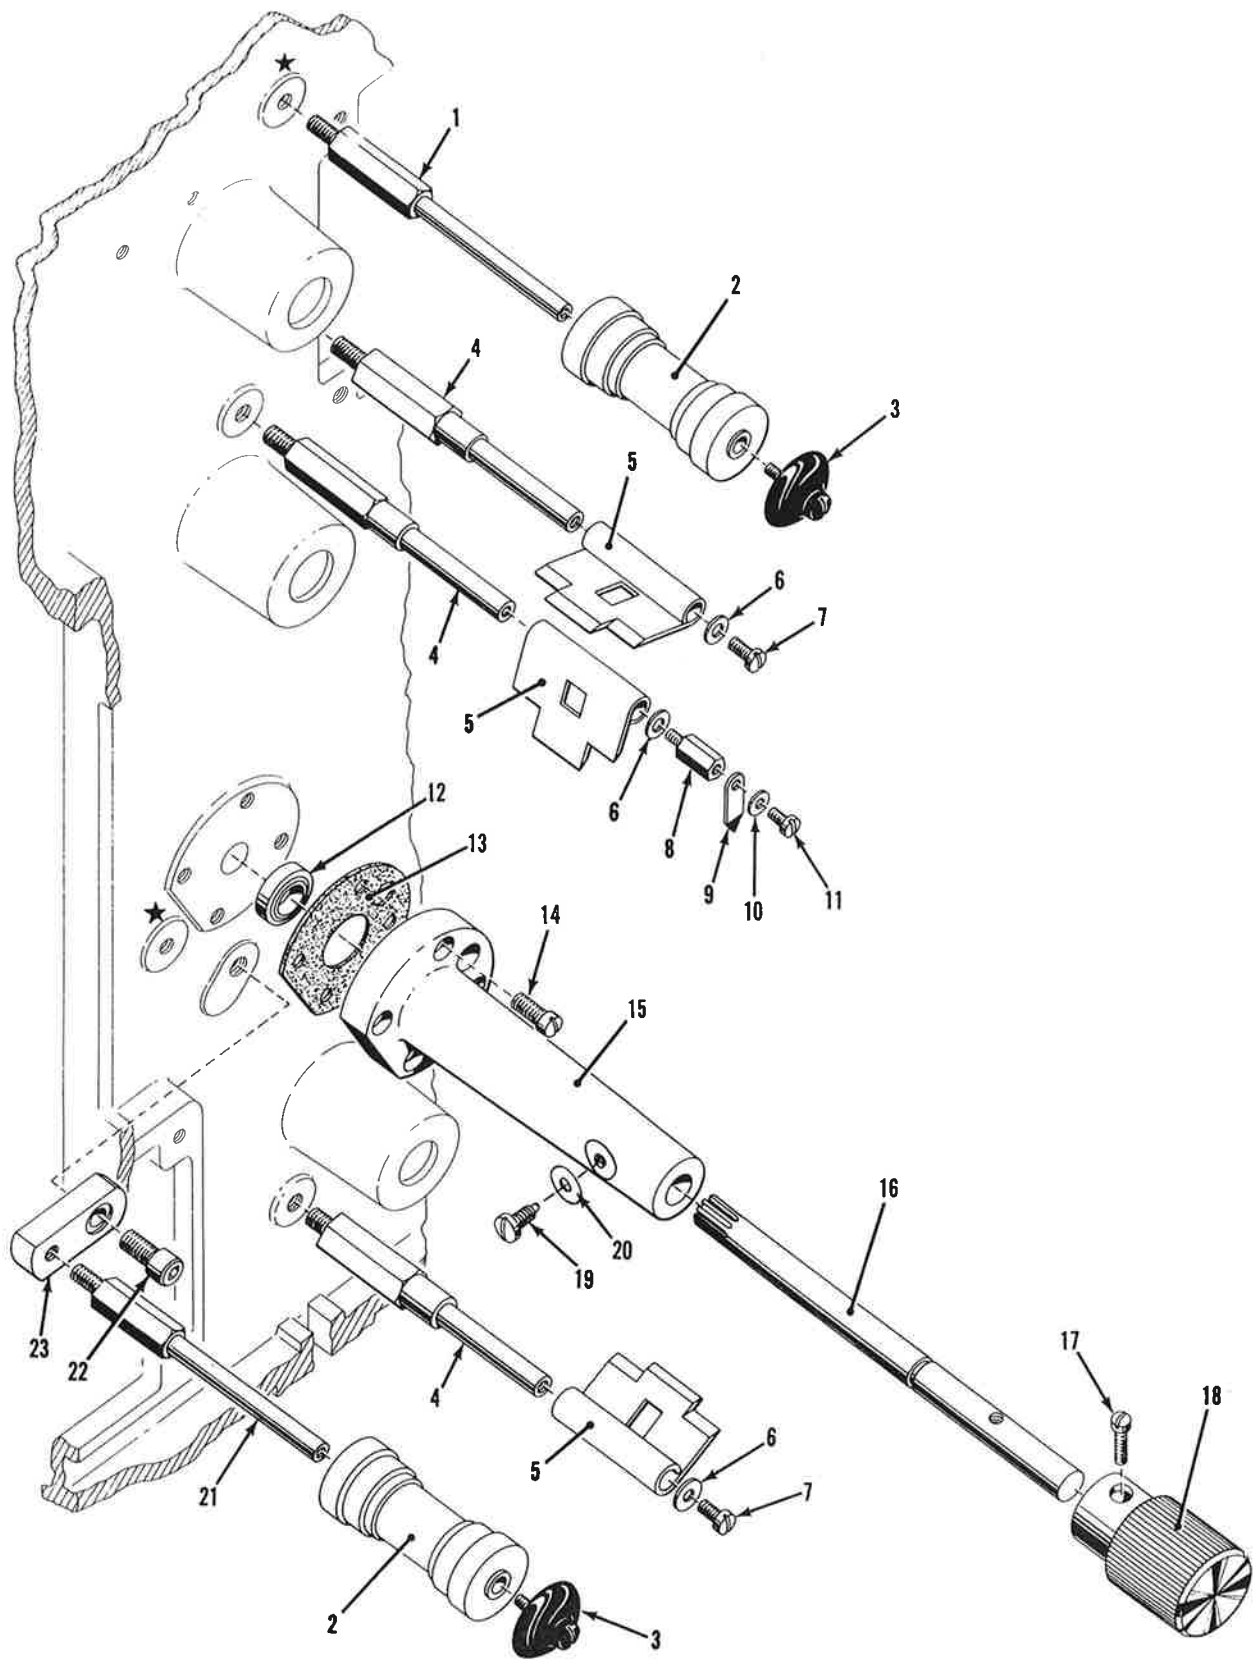

Figure 18. Guide Rollers, Film Strippers, and Framing Shaft Assembly.
* The parts marked with an asterisk are common to the guide rollers located by a star in Figure 18.